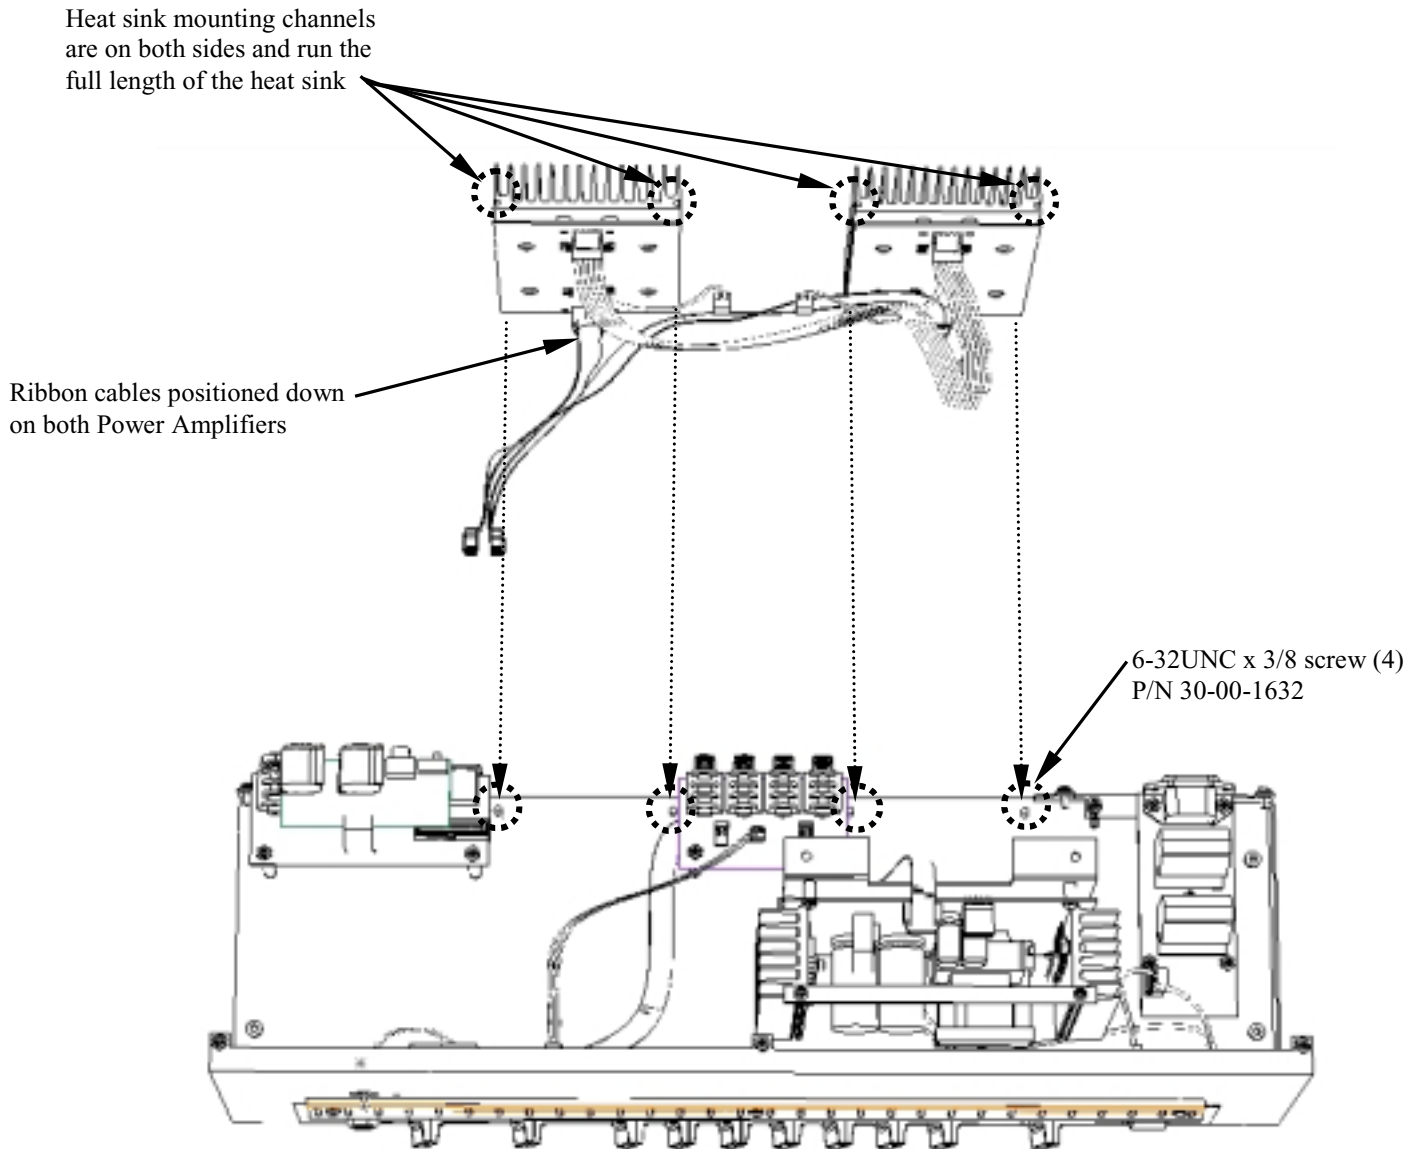

Figure 16
- a. Mount Power Amplifiers onto the Chassis using 6-32UNC x 3/8 self-tapping screws threaded into the Power Amplifier heat sink channels. See figure 16.